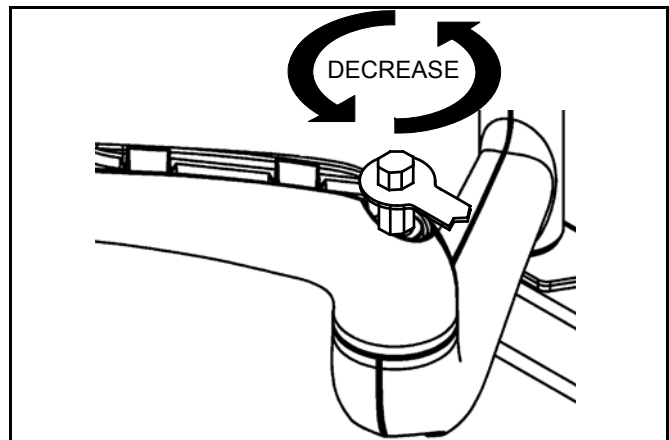
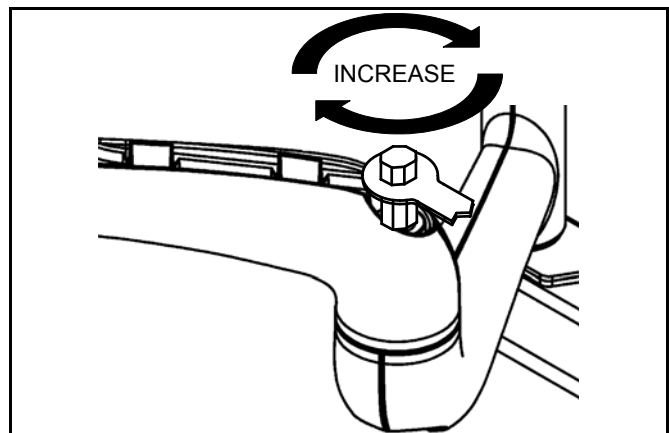

Figure 15
Figure 16
4. Using the adjustment wrench (D), turn adjustment bar (C) clockwise to increase swing arm tension or counterclockwise to reduce swing arm tension. (Small adjustments of 1/8 turn or less are typically all that is required to achieve desired tension.) (See Figure 15) and (See Figure 16)